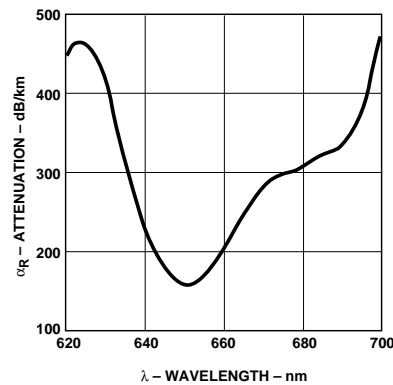

Figure 1. Typical POF attenuation vs. wavelength.
| Reference Attenuation | Standard Cable, Type "R" | α_R | 0.12 | 0.19 | 0.24 | dB/m Source is 650 nm, 0.5 NA monochromator, $\ell = 50$ meters Note 7, Figure 1 |
7. Note that α_R rises at the rate of about 0.0067 dB/ $^\circ\text{C}$, where the thermal rise refers to the LED temperature changes above 25°C . Please refer to Figure 1 which shows the typical plastic optical fiber attenuation versus wavelength at 25°C .